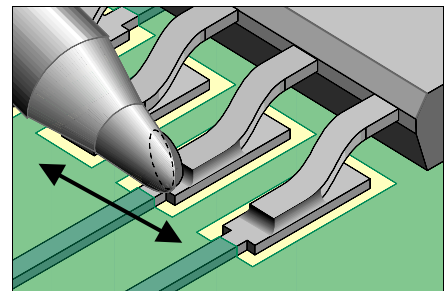

Figure 3: Slowly move the tip over the row of leads to form proper solder fillets at each joint.
6. Position the solder tip so that the solder bead contacts the top portion of the leads. Slowly move the tip over the row of leads to form proper solder fillets at each joint. (See Figure 3).